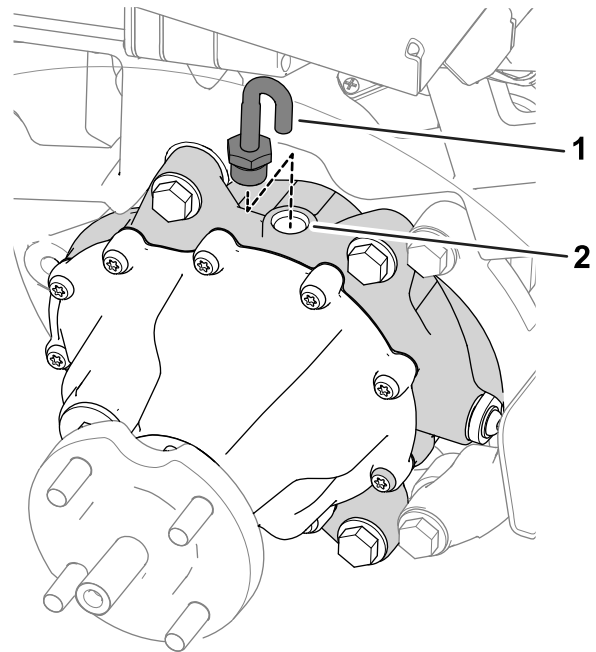

Figure 9
1. Remove the vent hose and fitting from the top of the gearbox (Figure 9).
3. Install the vent hose and fitting into the fill port (Figure 9).